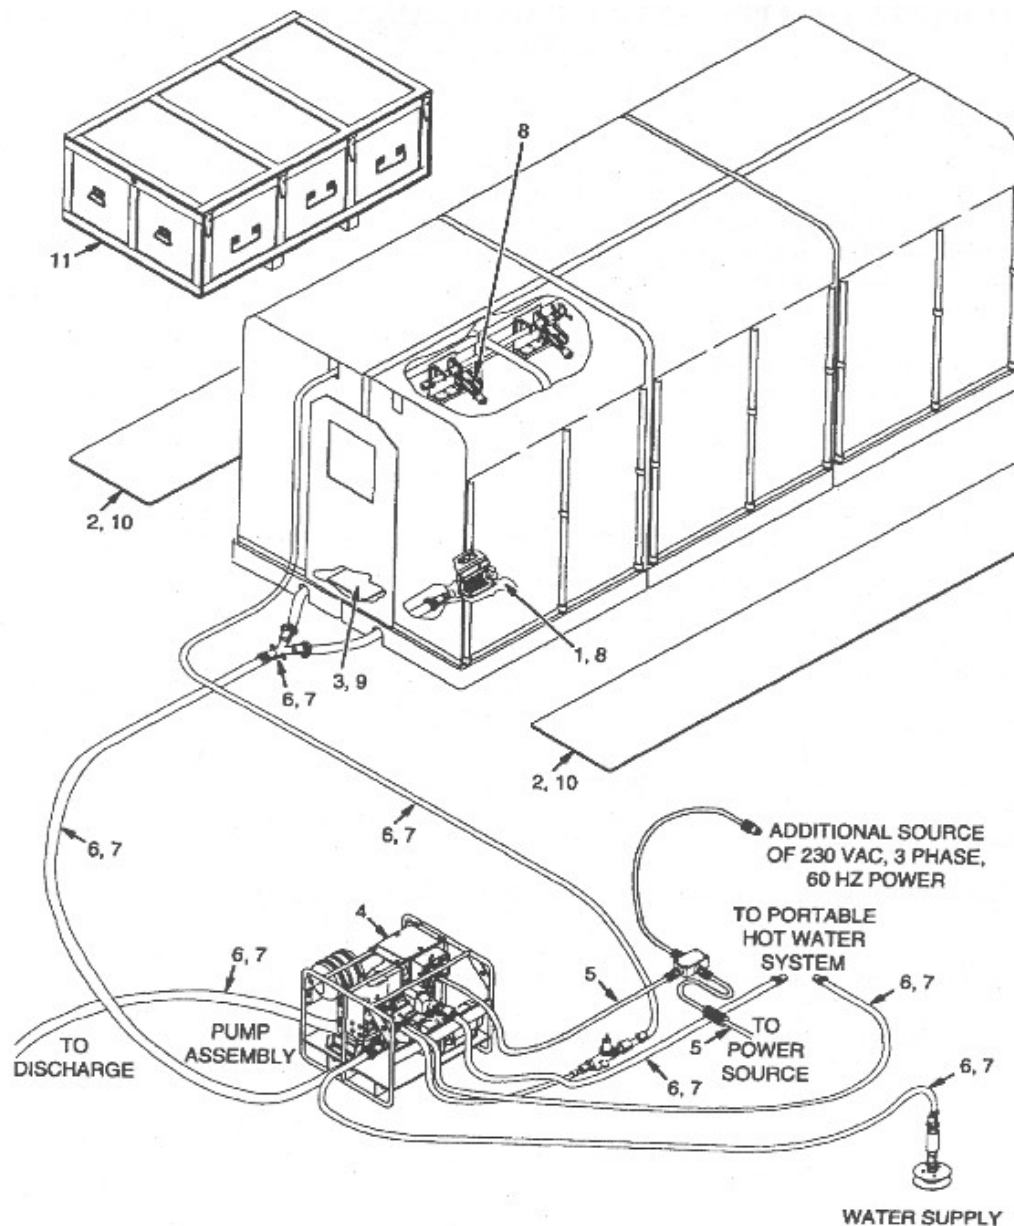

Figure 3-8
1. Place the water pump on a level surface approximately 15 to 20 feet from the water source. Ensure the suction lift does not exceed 15 feet above the water source. (See Figure 3-8)
- (1) Place the strainer on a mound of stones or gravel.
- (2) Make a large pile of stones upstream from the strainer to divert debris from the strainer.
- (3) Build a tripod using tree branches and suspend the strainer from the tripod or builds a barrier using tree branches. Place the tripod upstream from the strainer to prevent leaves, weeds, or other debris from entering the strainer. (See Figure 3-8)